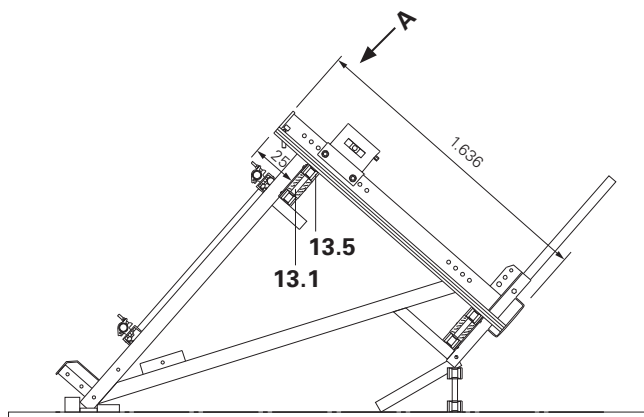

Fig. A1.17
1. Cut planking at right angles. Length according to decking requirements. (Fig. A1.17 + A1.18)